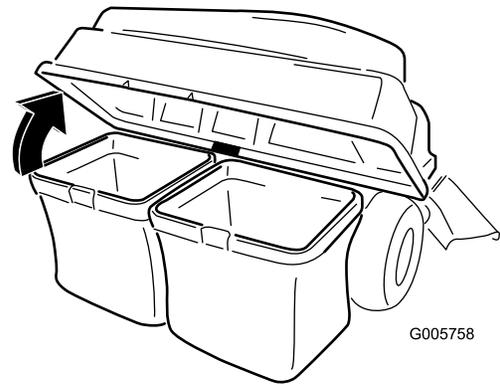

Figure 35
4. Open (raise) the bagger top (Figure 35).